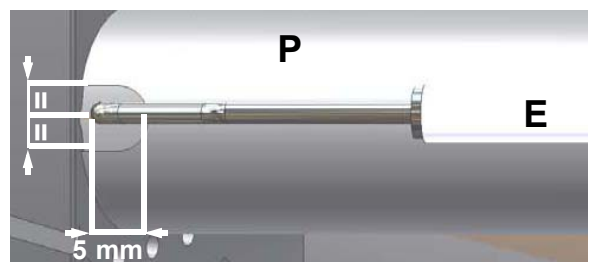

Fig. 30
Observe the values quoted on Fig. 30.
- 2 disconnect the electrode (E) cable (CE);
- 4 loose screw (B) that fasten the ignition electrode (E) to the burner pilot (P);
- 5 remove the electrode and replace it, referring to the values quoted on Fig. 30.